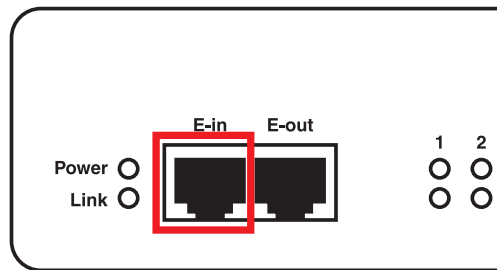

Figure 3-2. E-in port.
2. Connect the other end to the "E-in" port. See Figure 3-2.